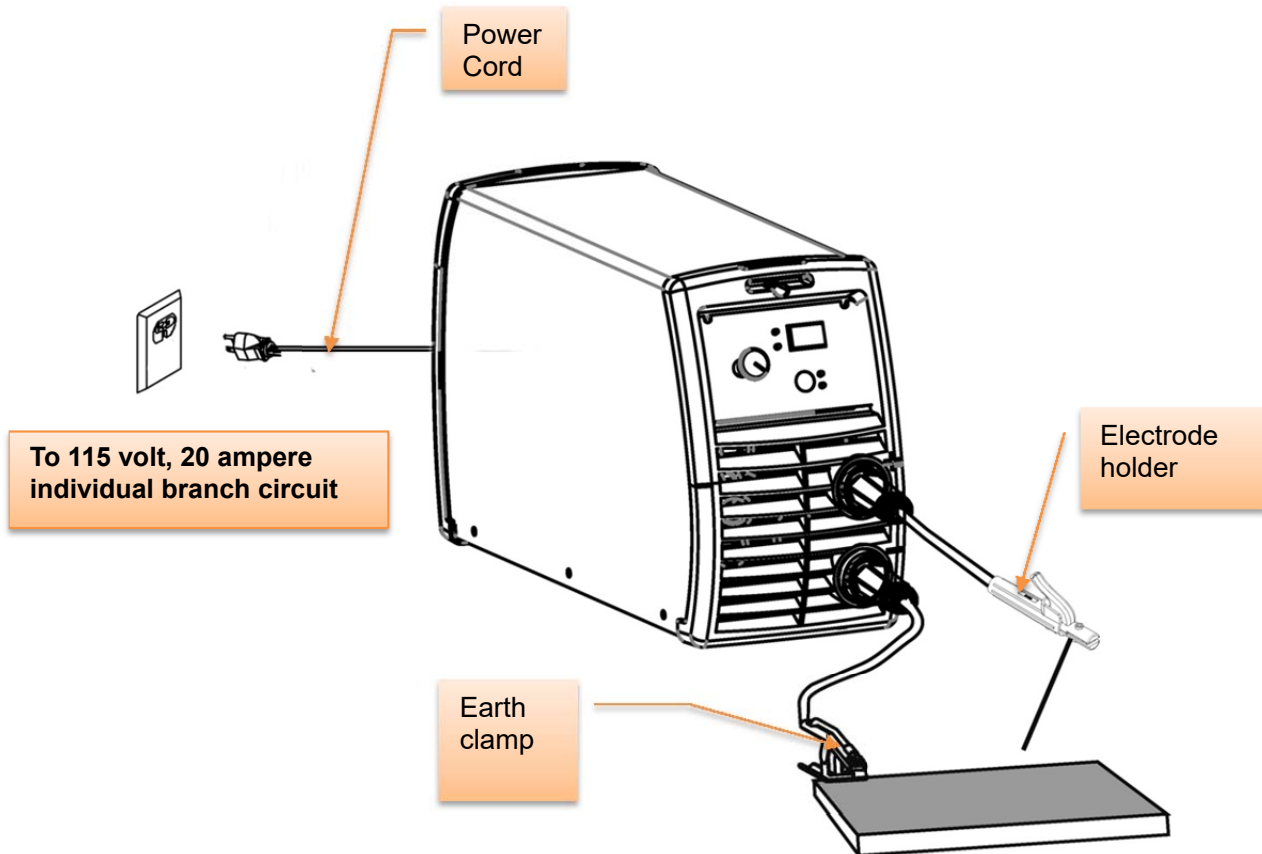

Figure 4.1
- 4-2.4. Connect the gas line/hose to the proper shielding gas source. Refer to Figure 4.1 and 4.2).